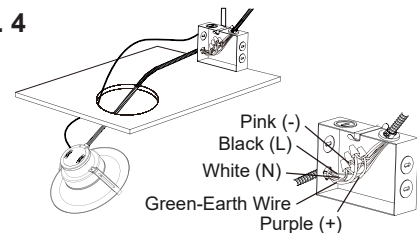

Fig. 5
5. Push the spring-loaded clips upwards and insert the base into the mounting hole. Release the clips and the fixture will grip flush with the ceiling / drywall. (Fig. 5)